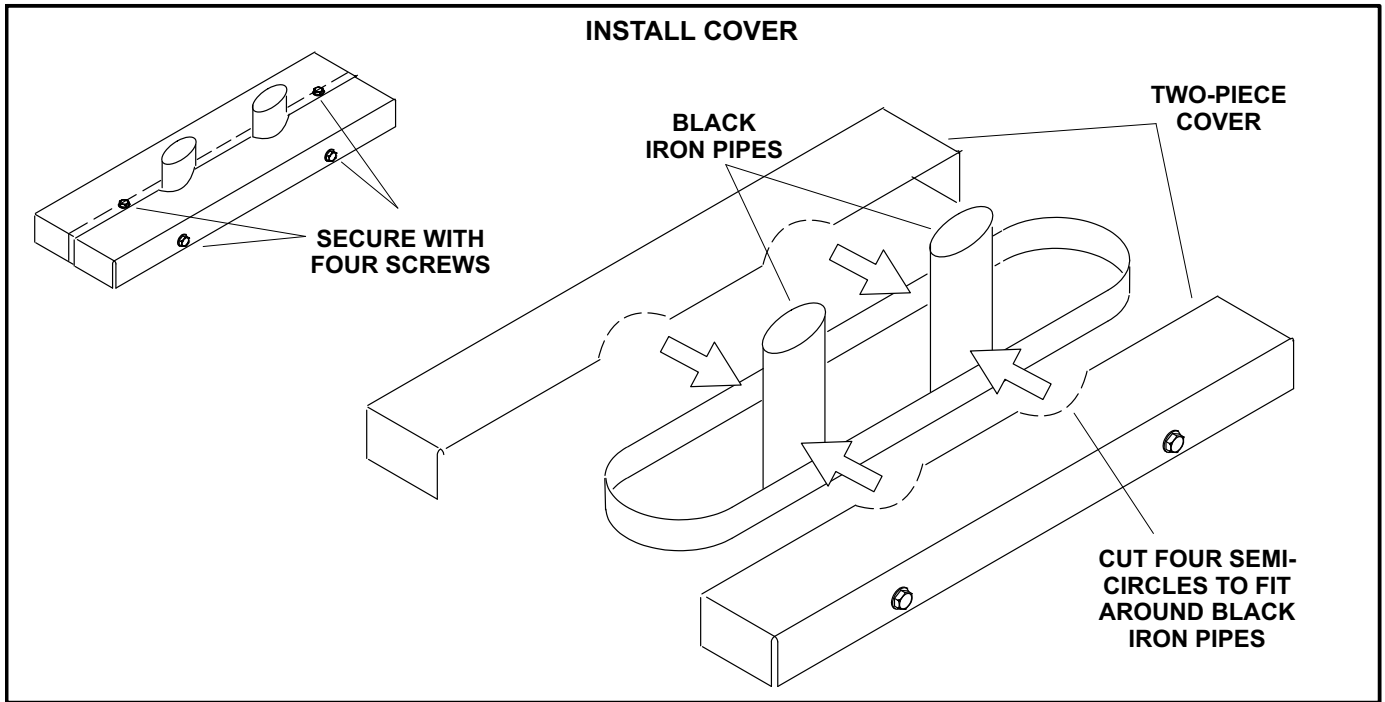

FIGURE 5
- 4- Cut half-round openings in the cover to fit around the black iron pipe. See figure 5. Secure two-piece cover to flanges and apply mastic sealant around openings.